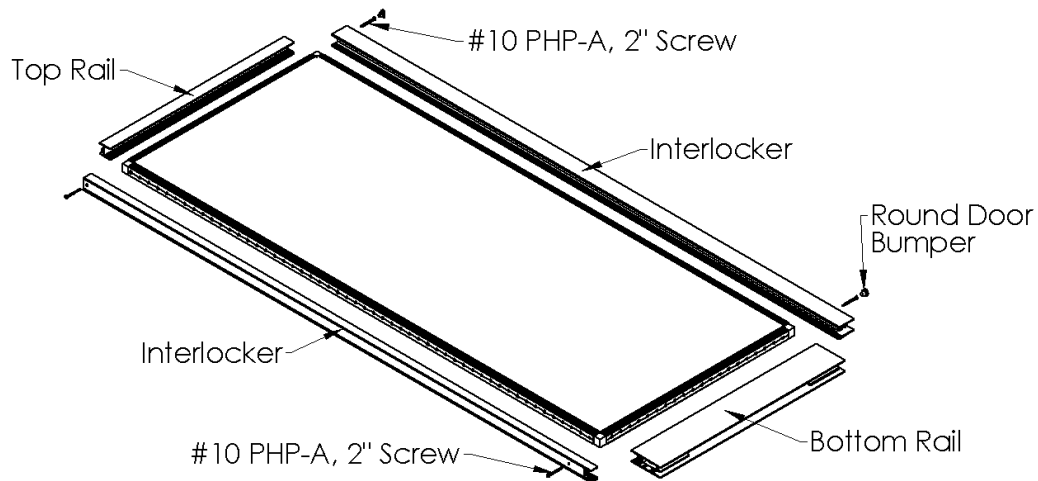

Figure 5:
4. Secure the stiles to the rails with (4) #10 x 2" pan head screws. Add wax to the ends of all fasteners to reduce the drive torque required for installation.
5. Insert vinyl plugs at top and bottom of stiles (Figure 5).